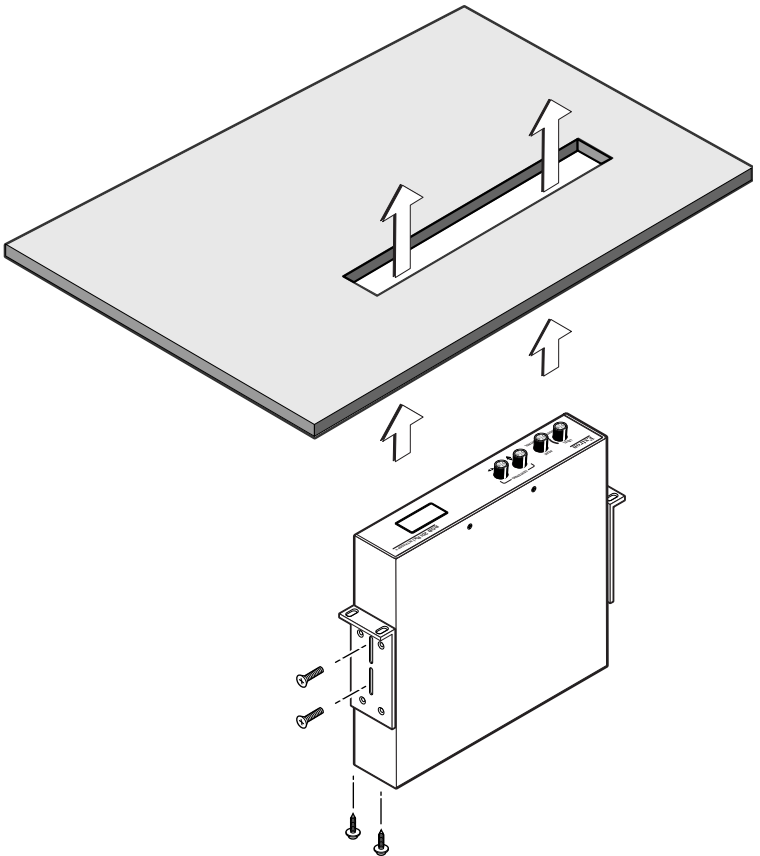

Figure 2-4 — Through-desk mounting
2. Insert the machine screws provided in the optional mounting kit (part #70-077-02) through the slots in the through-desk mounting brackets, and loosely secure the brackets to the interface (figure 2-4).